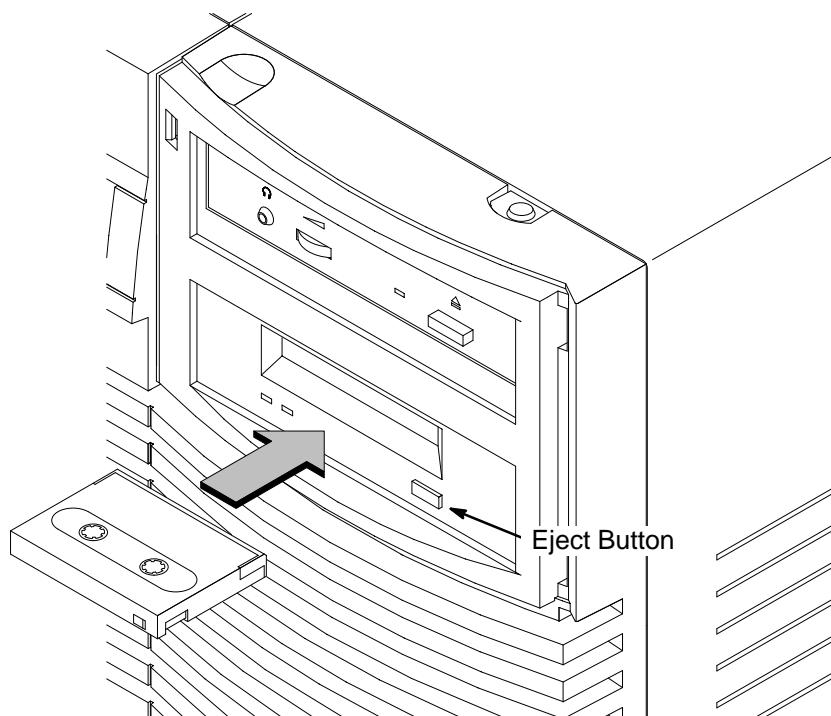

Figure 5–3. Loading a Data Cassette
2. Insert the data cassette into the drive, as shown in Figure 5–3.
- 4.** To remove the data cassette, press and release the eject button on the front of the drive, as shown in Figure 5–3. The LEDs on the drive flash on and off. Ten to twenty seconds later, the data cassette slides partway out of the drive. Remove the cassette from the drive.